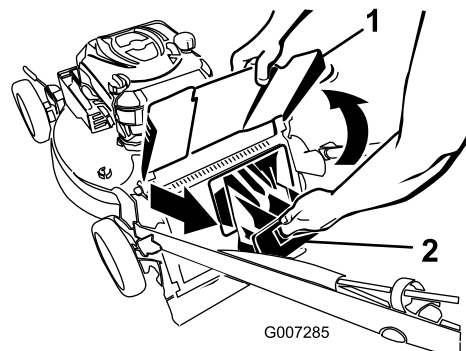

Figure 26
2. Raise and hold up the discharge deflector (Figure 26).
3. Pull out the rear discharge plug (Figure 26).